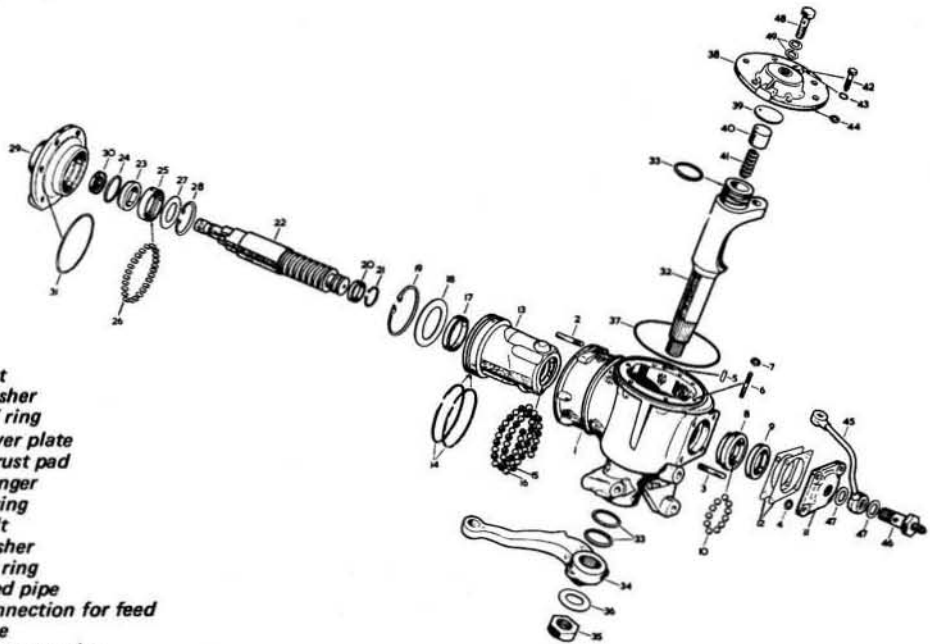

FIG.11.41. THE BURMAN POWER ASSISTED STEERING BOX
- 1 An exploded view of the Burman type steering box is given at Fig.11.41 to which reference should be made during the following operations.
- 2 Remove the tab washer and nut securing the drop arm (34). Withdraw the drop arm from the rocker shaft.
- 7 Take out the plunger (40) and the coil spring (41) and collect the thrust pad (39) from the counterbore in the cover.
- 9 Remove the bottom cover (11) and take off the cover and the outer ball race.